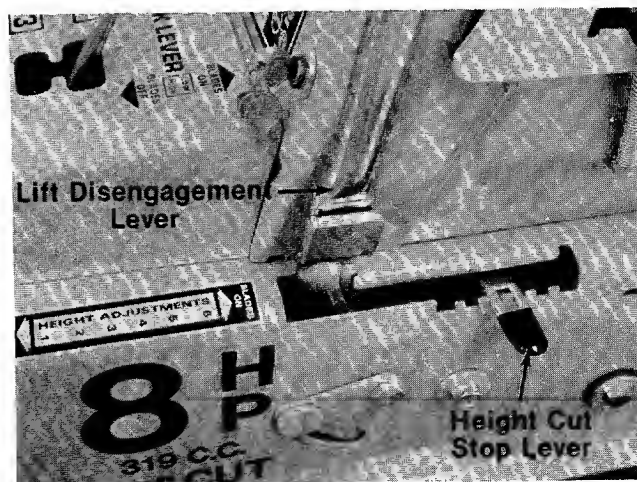
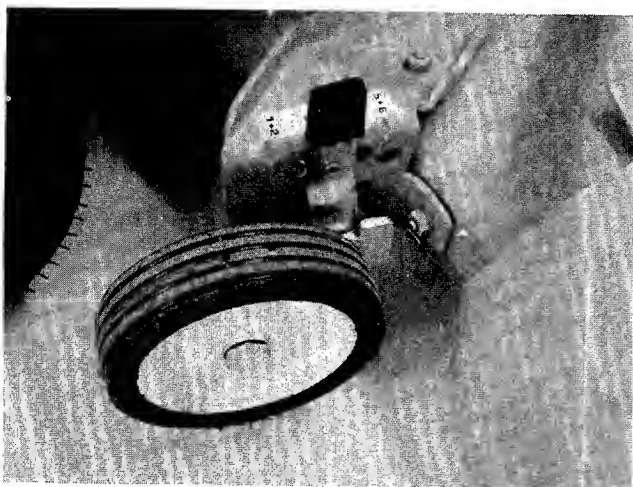

FIGURE 22.
FIGURE 23.
The lift and disengagement lever **must** be in the disengaged position when starting the engine and when shifting into reverse. See figure 22.
Height of Cut Stop. See figure 22. Lift the stop and set it at the desired cutting height. Allow the lift and disengagement lever to come forward to rest against the height of cut stop.
Wheel Height Adjuster. Move the lever towards the wheel and set it in the desired cutting height position. See figure 23. Both wheels must be in the same relative position.
To set the cutting deck in the full float position: Set the wheel height adjusters in the desired cutting height as indicated in figure 23. Set height of cut stop in the lowest position. See figure 22.
5. Move the lift and disengagement lever backward to the disengaged position and lock it. See figure 22.